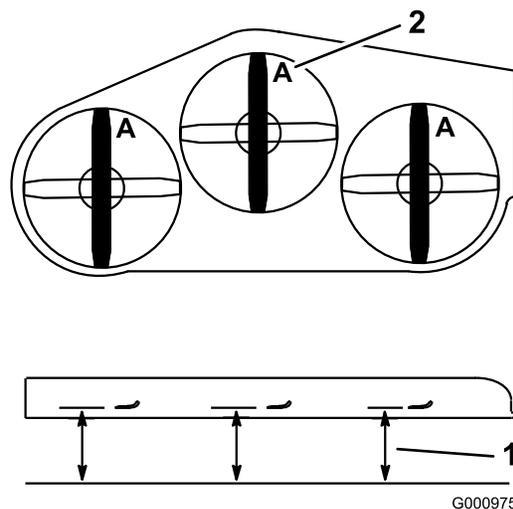

Figure 88
2. Measure from a level surface to the cutting edge, position A, of the blades (Figure 88).